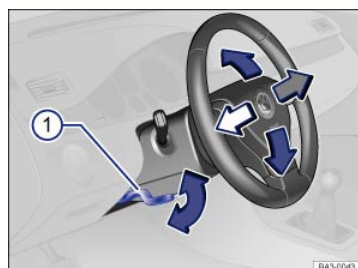

Fig. 80 Manual adjustment for the steering wheel position.
- Push down on the lever ⇒ Fig. 80①.
- Always pull the lever ⇒ Fig. 80① firmly upward after adjusting the steering wheel so that the steering wheel does not change position suddenly while the vehicle is moving.